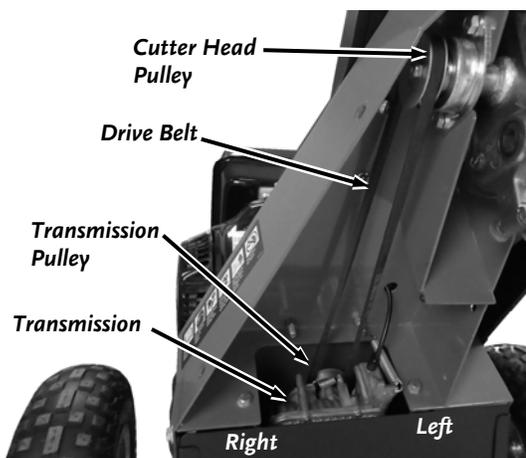

Figure 37
**Note:** Pay close attention the routing of the Belt before you remove it so you will reinstall it correctly (**Figure 37**).
**Note:** The left and right sides mentioned in the next step (and in Figure 37) refer to the operating position when you standing at the Handlebars.